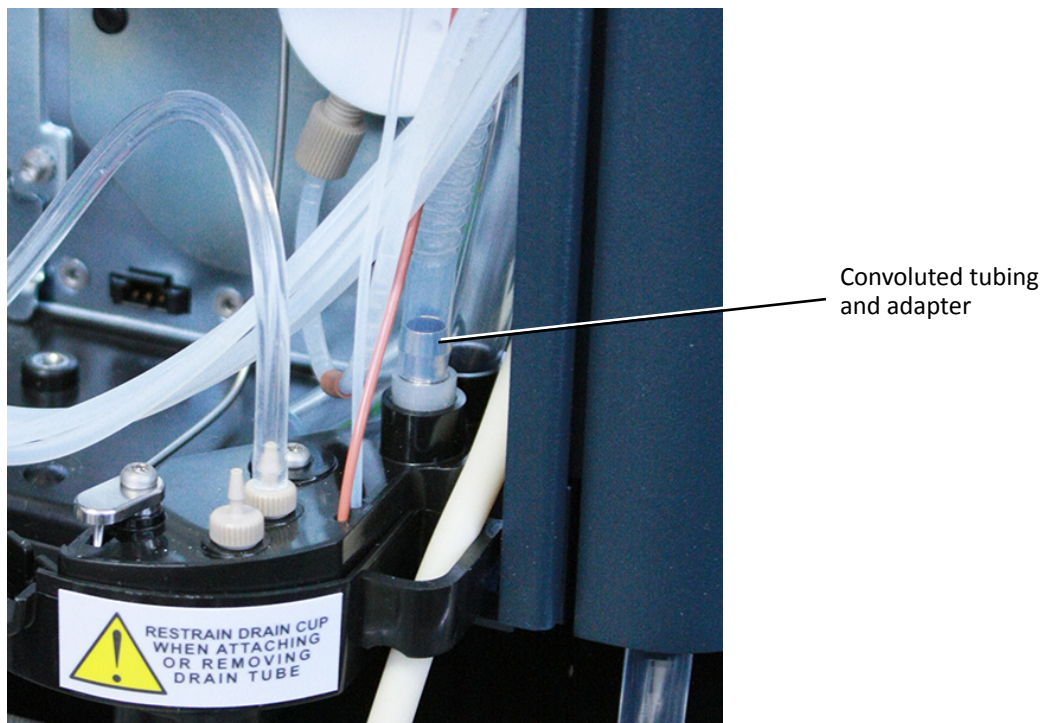

Figure 15 - Connecting SM FTN-R waste tubing to the QSM-R drip tray
2. Connect the long cuff end of the convoluted (process waste) tubing to the QSM-R drip tray using tubing adapter. See Figure 15.